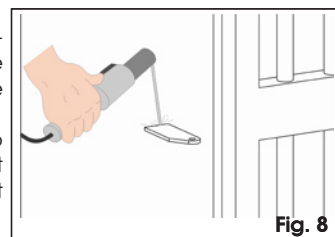

Fig. 8
- a- For iron pilasters, weld the bracket directly on the pilaster (Fig. 8).